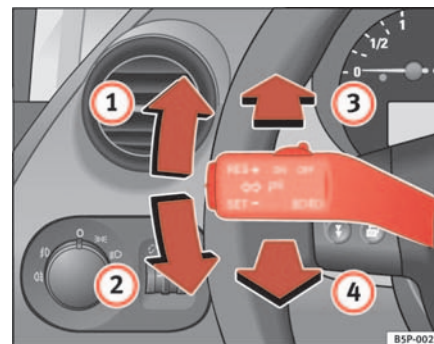

Fig. 77 Turn signal and main beam headlight lever
- Move the lever all the way up  fig. 77 ① to indicate **right**, and all the way down  ② to indicate **left**.
- Press the lever forward $\Rightarrow$ page 115, fig. 77 **③** to switch on the main beams.